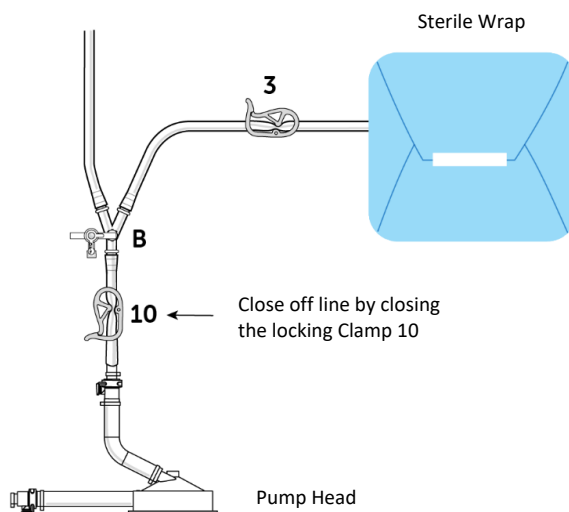

Figure 14
- (a) Close pre-pump clamp (10), open double balloon catheter line clamp (3), open saline line (clamp 1 or 2), and stopcock "B" to allow heparinized normal saline to prime line only up to clamp 3, see Figure 14. Once the stopcock line is primed and the double balloon catheter line is primed up to clamp 3, close clamp 3 and stopcock. **Do not allow excess heparinized normal saline to fill sterile wrap.**